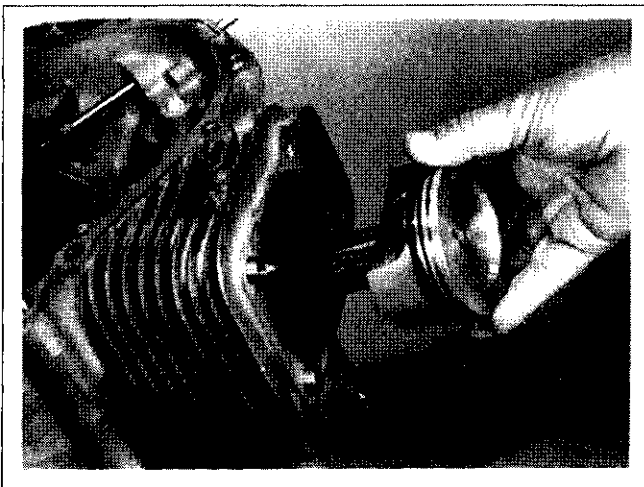

Figure 9-64. Removing Piston/Connecting Rod Assemblies.
2. Carefully remove the connecting rod and piston assembly from the cylinder bore. See Figure 9-64.